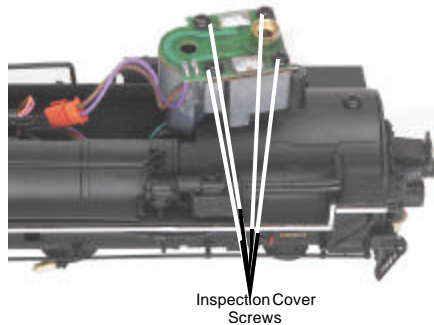

Figure 15
4. Set the board and the bracket aside, unscrew the one screw holding the smoke unit assembly from the boiler shell. Slide the smoke unit assembly all the way towards the back of the boiler to free it. Once the unit is freed, remove the inspection cover (Fig. 15). Inspect the wick; if it is darkly discolored and hard, it should be replaced.